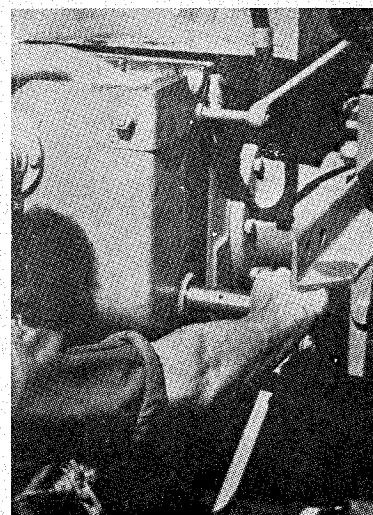

Fig. 64.
9. On the LH side of the housing screw out the LH bolt and, tapping lightly, move the shaft of the ram cylinder through the RH aperture out of the housing (see Fig. 64). During this operation slightly lift the ram cylinder. The lock bolt of the ram cylinder shaft on the bottom of the housing can be slightly slackened (by one turn at the most), as it serves as a guide on reassembly. Then it must be firmly re-tightened.